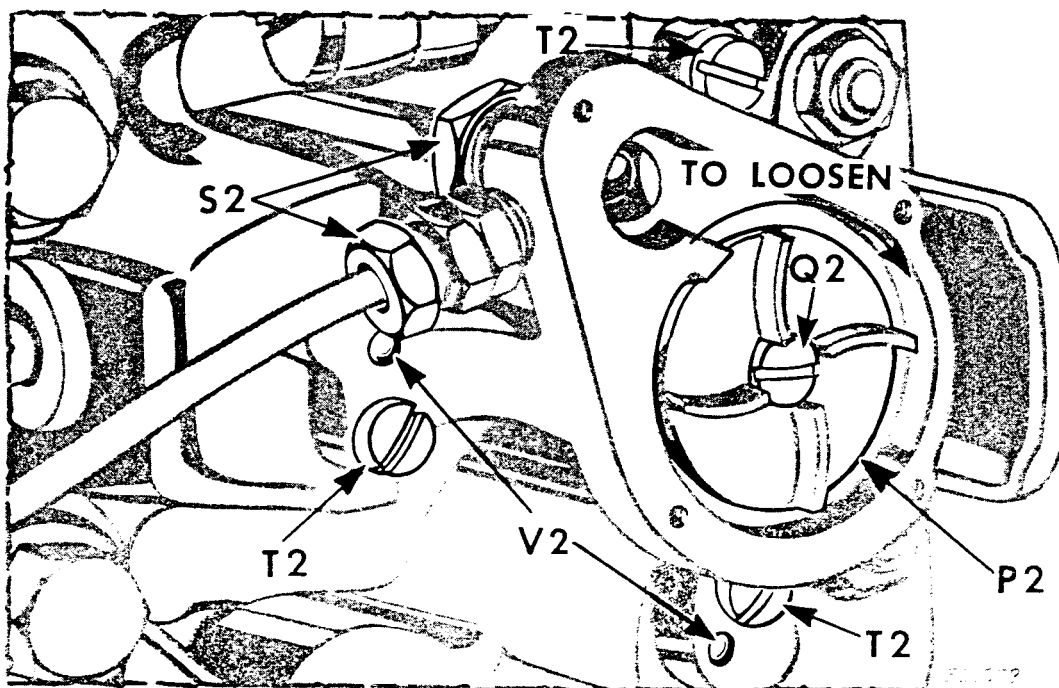

Fig. 49. Oil Pump
1. Loosen the two oil pipe clamping sleeve nuts **S2**, **Fig. 49**.
4. Remove the locking screw **Q2**, **Fig. 49**.
5. Remove the impeller **P2**, by turning it over toward the **RIGHT** (clockwise) to loosen it, as instructed in **Fig. 49**.